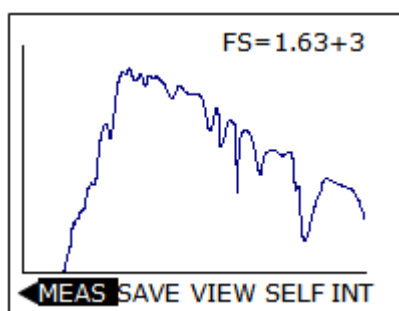

Figure 6-6. Spectral Data Display Screen
- (2) After the measurement, the spectral data is displayed in a graph such as the one shown in Figure 6-6. Full scale of the vertical axis for the spectral irradiance is shown at upper right. The unit of the full scale is $W/m^2/\mu m$. The spectral data, which is obtained at the latest, is displayed on LCD.
- (3) To save the data obtained by manual measurement, refer to [6-3. Measurement Functions], [3. Save Data]. These data are NOT automatically saved in the internal memory.